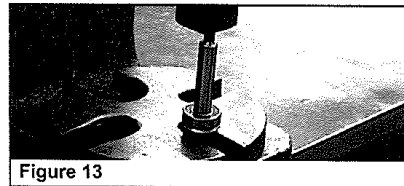

Figure 13
3. To remove the Bearing from the shaft, place the shaft (threaded end up) in the arbor press fixture. Place the two support bars provided in the repair kit opposite each other and between the seal on the shaft and the arbor press fixture. Using an arbor press, press the shaft through the Bearing, Seal Spacer and Seal (See Figure 13).